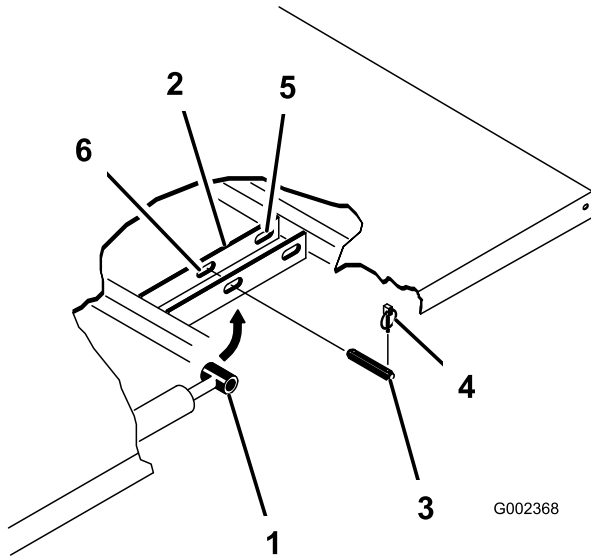

Figure 30
3. Remove the lynch pins from the outer ends of the cylinder rod clevis pins (Figure 30).
4. Remove the clevis pins securing the cylinder rod ends to the bed-mounting plates by pushing the pins toward the inside (Figure 30).
5. Remove the lynch pins and clevis pins securing the pivot brackets to the frame channels (Figure 30).